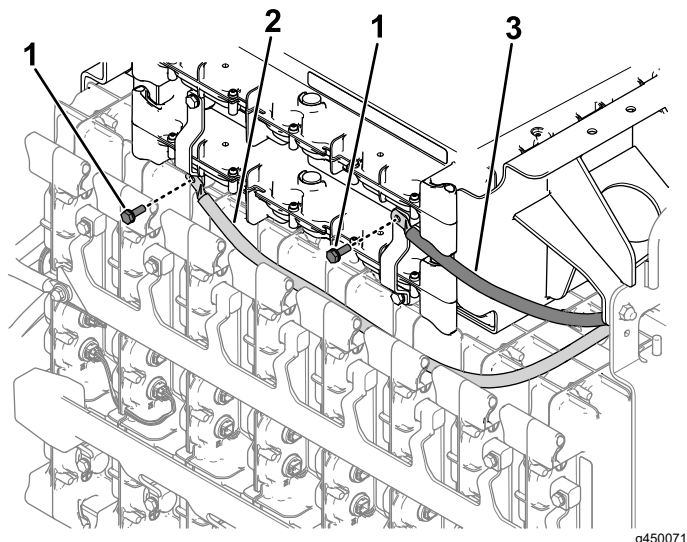

**Figure 3**
2. Use 2 hex-head bolts (1/4 inch) to loosely secure the bus bars to the batteries (Figure 3).
4. Verify that the bus bars are seated properly and torque the hex-head bolts (Figure 3 and Figure 4) to 11 N·m (95 in-lb).